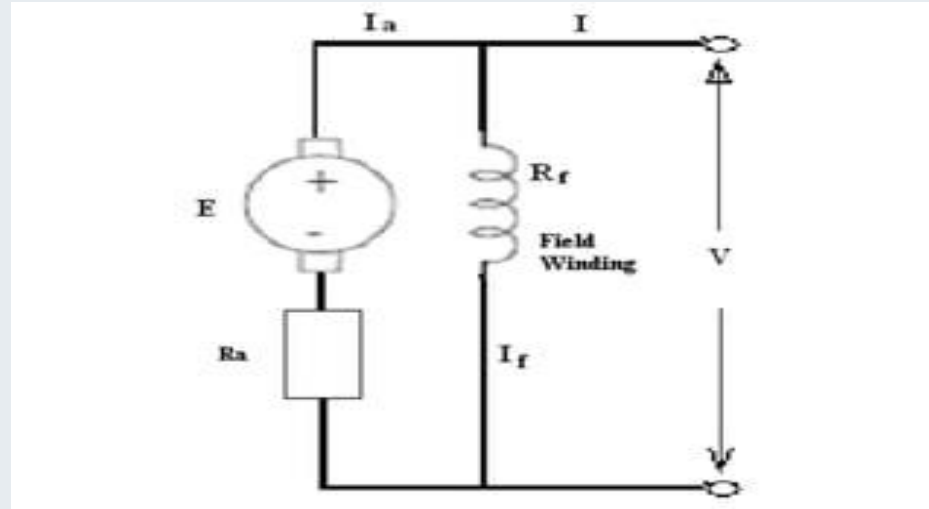

Figure 2. The relationship between terminal voltage and induced EMF of Generator.
- The relationship between the alternator's terminal voltage and induced voltage is shown in Fig. 2, and it may be expressed mathematically as follows: